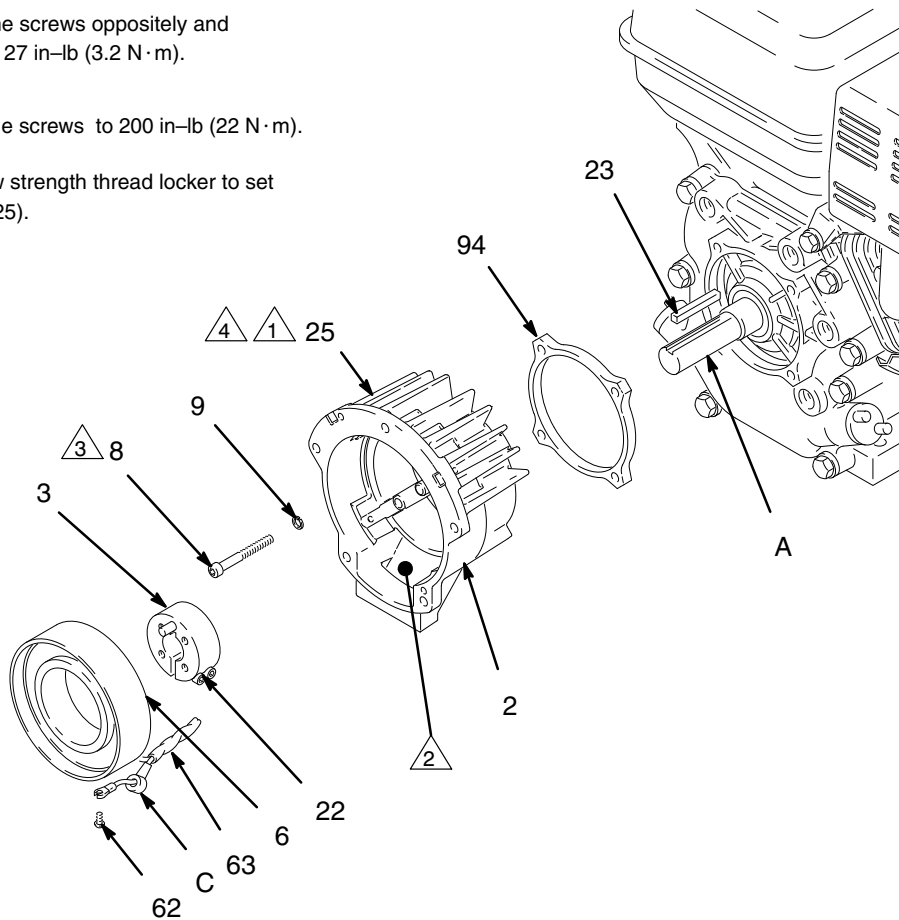

Fig. 20
1. Install spacer (94) between the engine and the clutch housing (2).
2. Install the **clutch housing (2)**, capscrews (8) and lockwashers (9) on the engine.
3. Install the engine shaft **key (23)**. See Fig. 20.
5. Connect the wires of the harness (63) with the screws (62) in both places on the field (wires can be attached to either connection). Pull the plastic caps (C) up and snap them over the screws. Install the field in the clutch housing. Push the wire harness through the slot in the clutch housing. Align the setscrew holes in the field and the clutch housing (2). Use a feeler gage to center the field (6) by measuring the gap between the four housing bosses where the set screws pass through the housing and the field. Adjust the set screws to provide even clearance. Then tighten the set-screws (25) oppositely and evenly, to 27 in-lb (3.2 N.m). See Fig. 20.